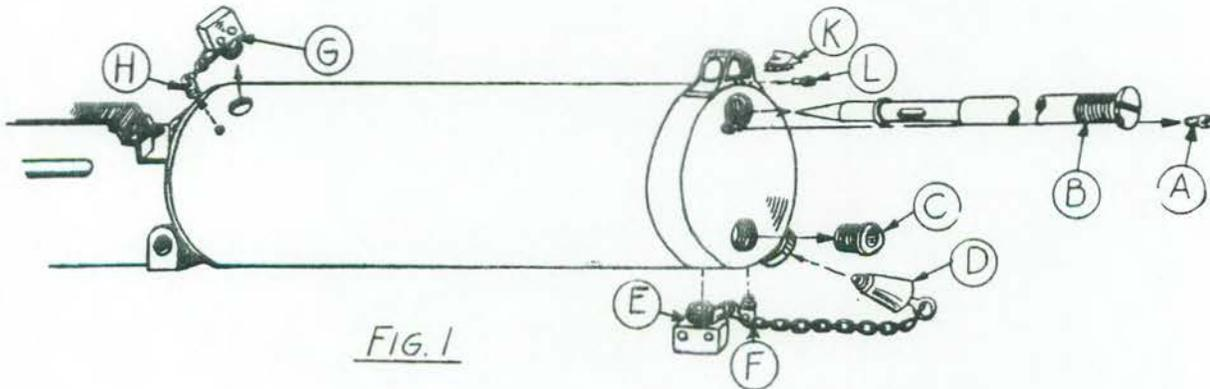

FIG. 1
5 REMOVE COTTER PIN (A), FIG. 1, AND TAKE OFF NUT (B). PULL OUT COVER BOLT (C). MOVABLE PLATE (D), FIXED PLATE (E) AND SPRING (F) WILL COME OFF WHEN (C) IS REMOVED. COVER (G) WILL NOW LIFT OFF CASING (H).